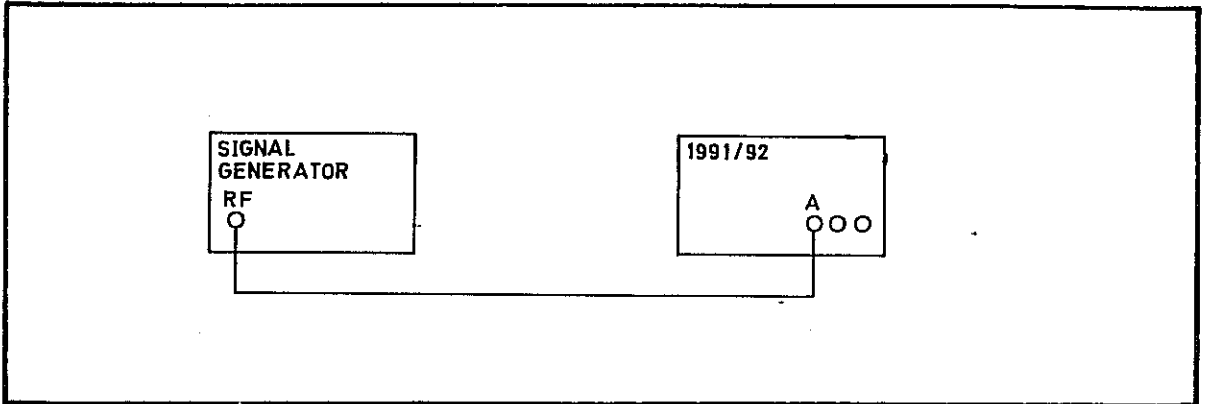

Fig 7.21 Connections for Minimum Time Interval PVP
- 57 (1) Connect the test equipment as shown in Fig 7.21.
- (2) Select 50  $\Omega$  on channel A, T.I. A B and COM A.
- (3) Set the signal generator output to 100 MHz at a level of 1 V.
- (4) Verify that a display of  $0 \pm 2\text{ns}$  is obtained.
- (5) Disconnect the test equipment.